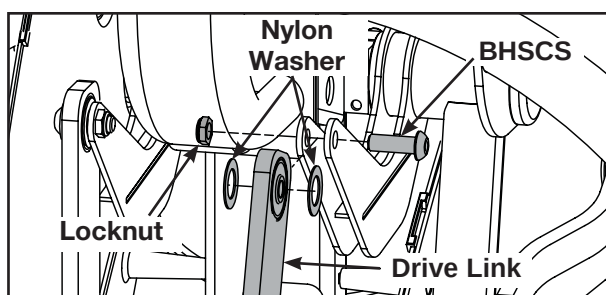

Figure 5
A. Using a 5/16" Allen wrench and 3/4" open end wrench, remove the Button Head Socket Cap Screw (BHSCS), locknut and two nylon washers and set aside. **NOTE:** The BHSCS, locknut and washers will be reused in step 17. See Figure 5.